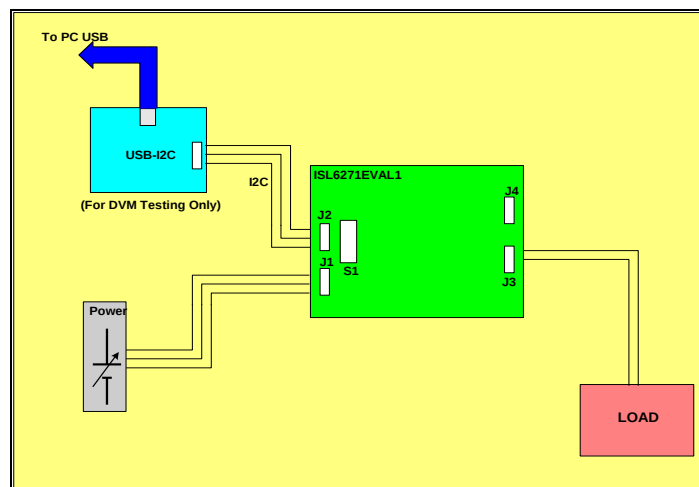
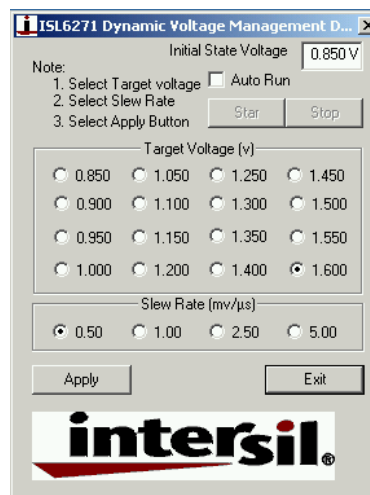
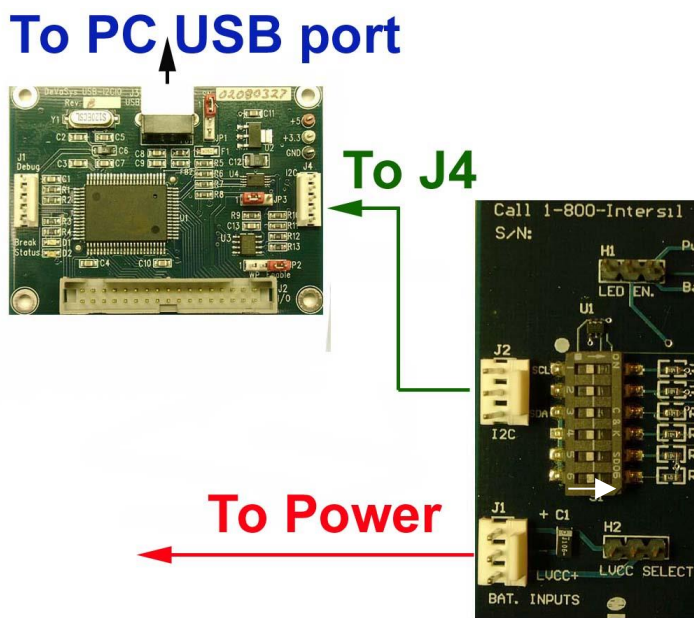

FIGURE 2. CONNECT J1 TO THE DUAL POWER SUPPLY
FIGURE 11. ISL6271A TESTING APPLICATION WINDOW
FIGURE 12. CONNECT THE INTERCONNECTING CABLE TO J2 ON THE EVALUATION BOARD
Connect J1 on the eval board to the dual power supply, with the (LVCC+) pin to 2.5V (supply to the 2 LDO's), the (+) pin to 3.7V (supply to the switching regulator), and the (-) pin to the supply common (gnd), **Figure 2**.
Once the SW is loaded and the DVM-choice screen is displayed (**Figure 11**), the two boards should be connected together (**Figure 12**). Before connecting the cable between the eval board and the USB-I²C module (**Figure 2**), apply input power (3.7V) to the eval board and then connect the interconnecting cable to J2 on the eval board. Switch S1 position 6 should be switched to the 'right' for I²C testing.
6. Click the "ISL6271A Demo" icon on your desktop to run the software. If you receive "Error in setting the initial stage" message, check your cable connections. Figure 11 window will pop up on your desktop. You will be able to adjust the ISL6271A output voltage and slew rate through the software.